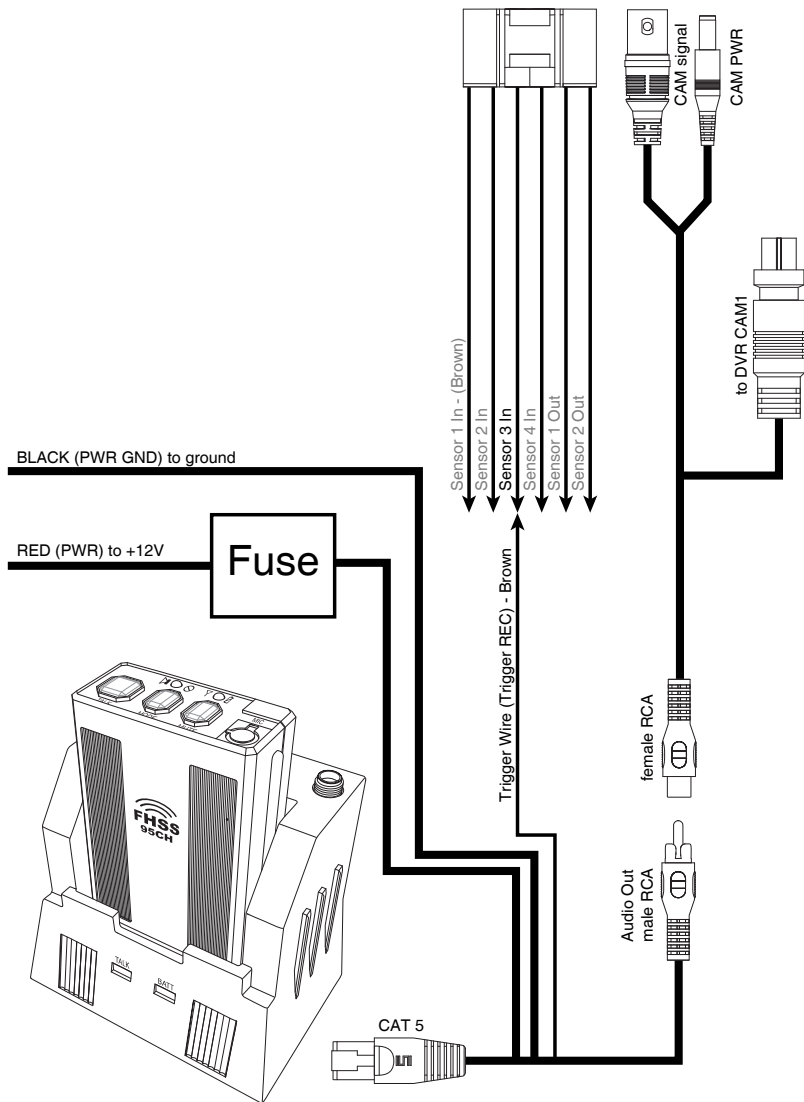

FIG. 3
- 1 Plug the male RCA plug into the female red RCA plug coming from the camera wire harness. (FIG 3)